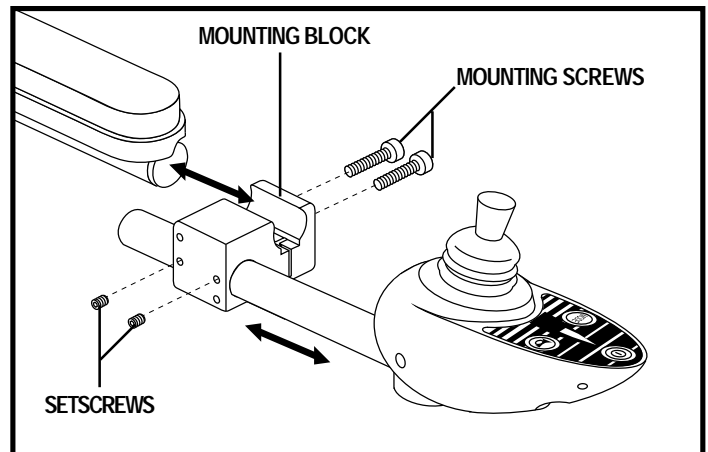

Figure 20. Adjusting Controller Position (Standard Seat)
**NOTE:** If your power chair is equipped with a Specialty Seat, Synergy Seat or TRU-Balance 2 Power Positioning System, loosen the setscrews in the mounting block, slide the controller in or out to the desired position, then tighten the setscrews. See figure 20.
**NOTE:** If your power chair is equipped with a Specialty Seat, Synergy Seat or TRU-Balance 2 Power Positioning System, loosen the mounting screws in the mounting block, transfer the mounting block and controller to the opposite armrest, and tighten the mounting screws. See figure 20.